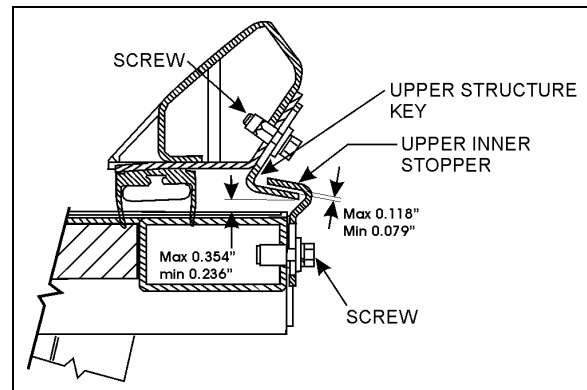

FIGURE 4 : UPPER INNER STOPPERS ADJUSTMENT
2. Adjust the upper structure key and the upper inner stoppers according to FIGURE 4 with the seal deflated. When inflating, the seal presses the roof structure upward and at